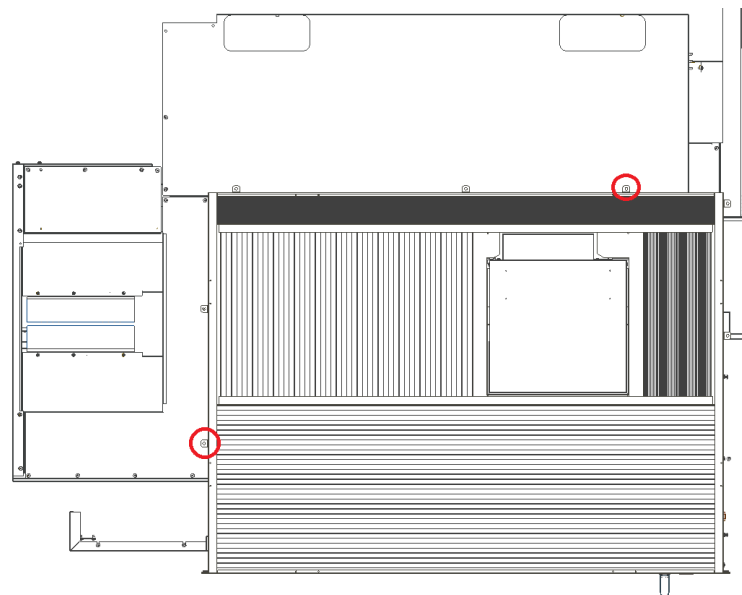

Figure 1: Alignment Mounting Brackets
- c. On the back-right mounting bracket hole (shown in Figure 1 below), drill a 7/32" hole into the UMC-750 enclosure.
- f. On the forward most mounting bracket on the left side of the roof cover frame (see Figure 1), drill a 7/32" hole.